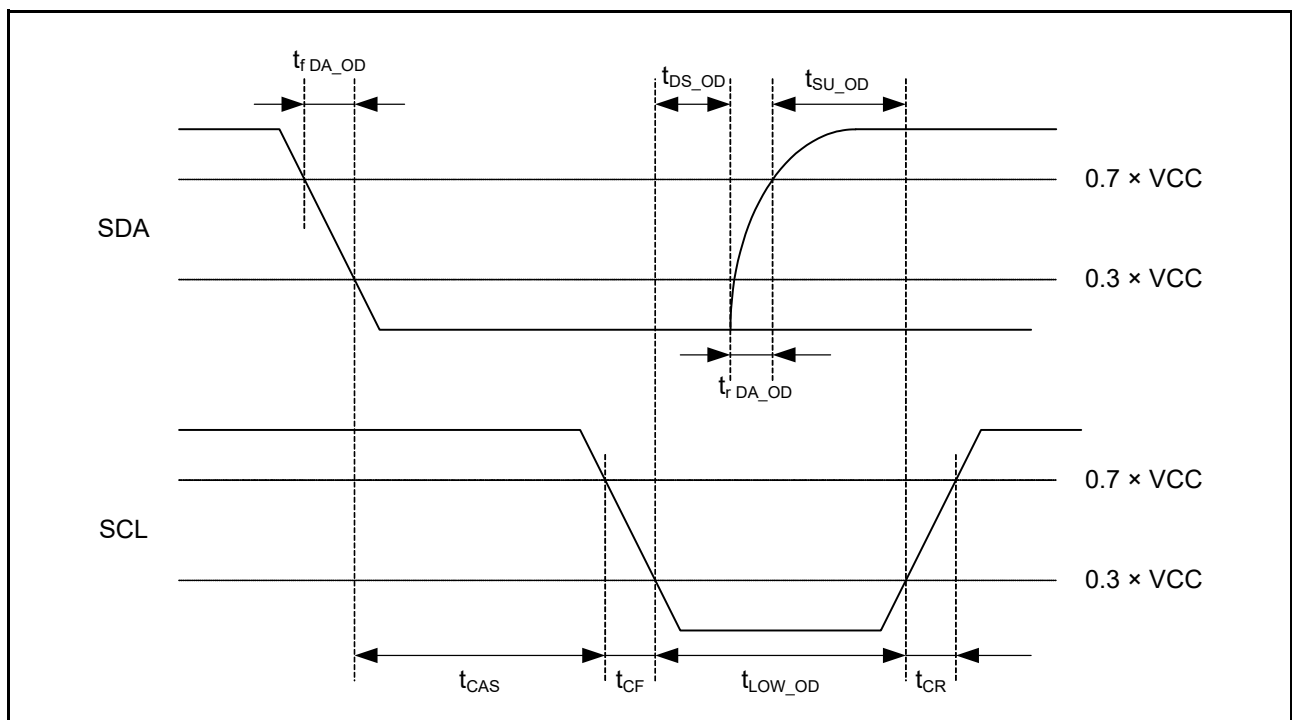
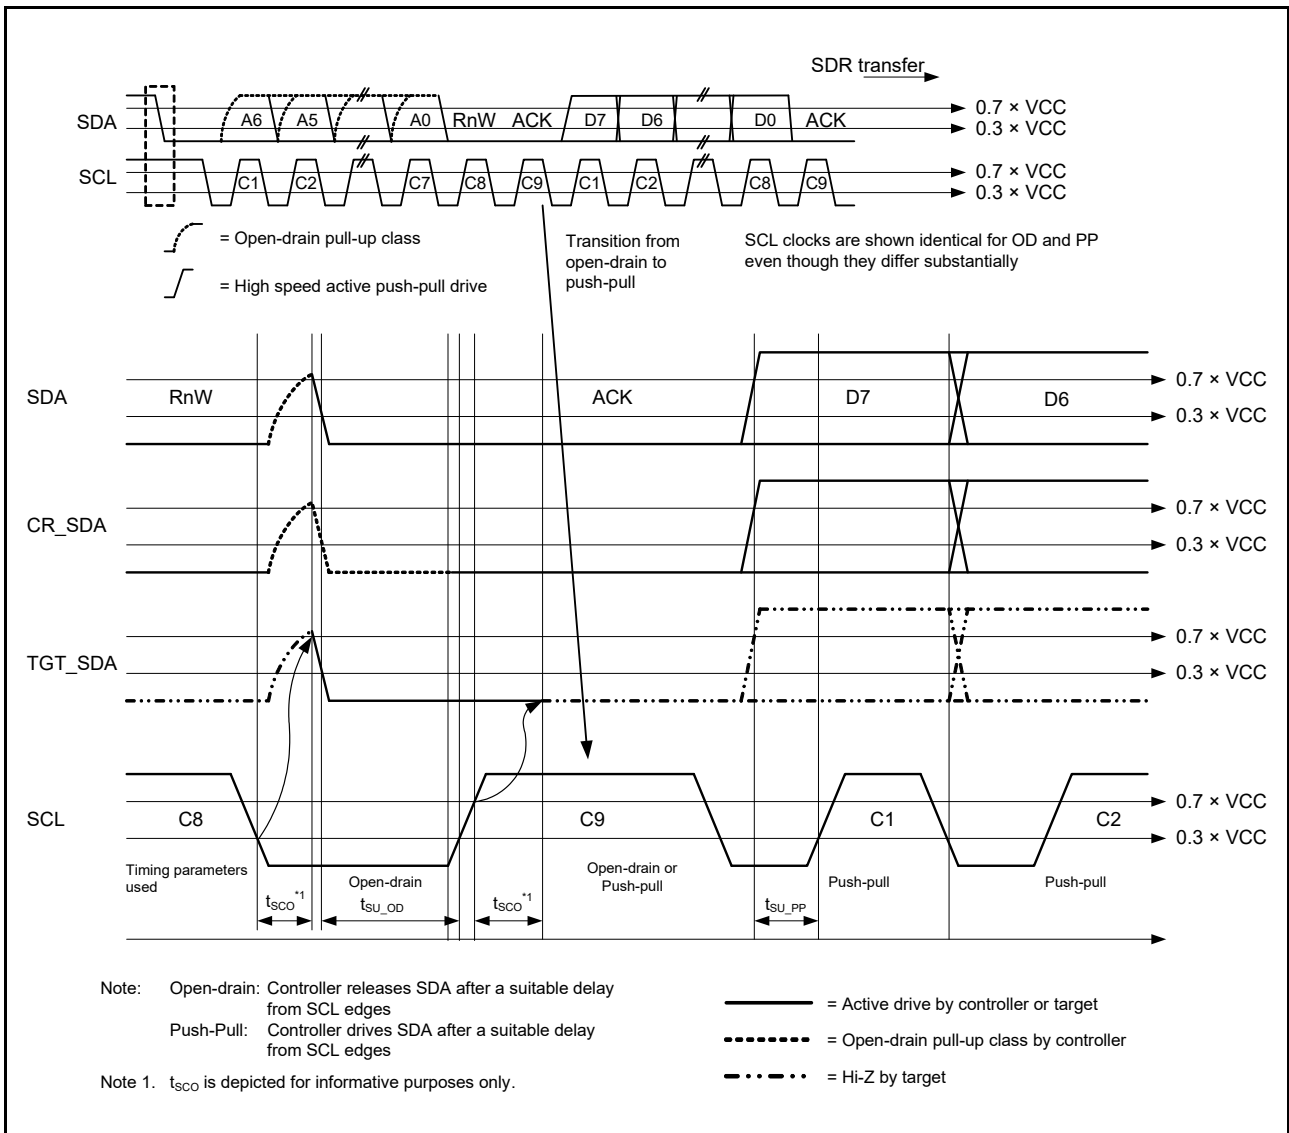

Figure 2.68 RI3C Start Condition Timing
Figure 2.69 I3C Data Transfer — ACK by Target
| SCL clock low period | t _{LOW_OD} | 200*1, *2 | — | — | ns | Figure 2.68 |
| SDA signal fall time | t _{rDA_OD} | t _{CF} | — | 33 | ns | Figure 2.68 |
| SDA data setup time open drain mode | t _{SU_OD} | 3*1 | — | — | ns | Figure 2.68, Figure 2.69 |
| Clock after START (S) condition | t _{CAS} | 38.4 ns*3 | — | For ENTAS0: 1 μs | — | Figure 2.68 |